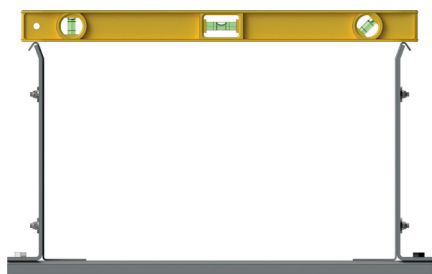

Fig. 2
- As level as possible (both in longitudinal and transversal direction (**Fig. 2**) – to avoid additional friction between the upper chain and the lower chain (or the supports) or to avoid possible lifting of the cable chain